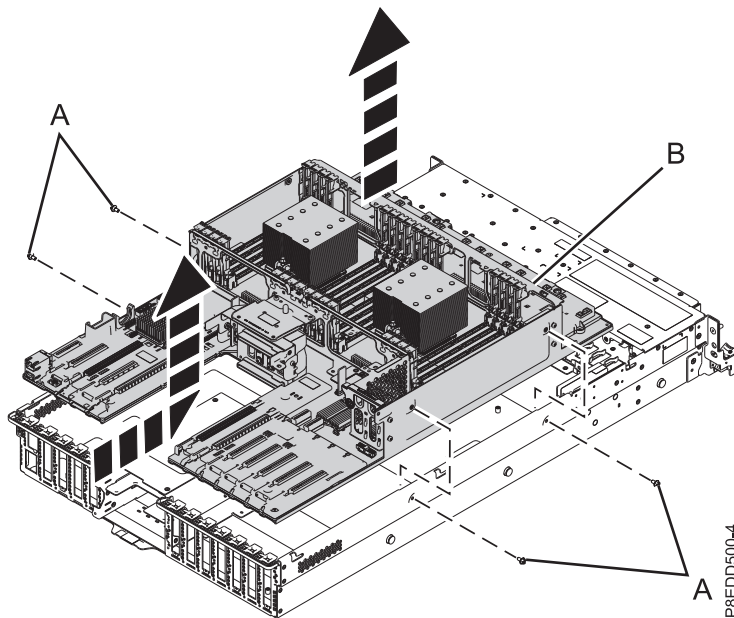

Figure 119. Removing the system backplane
- b. Using a Phillips screwdriver, unscrew and remove four screws **(A)** from the sides of the system chassis as shown in Figure 119 on page 121.
- c. Grasp the system backplane by the top guide rail **(B)**. Slide it forward in the direction that is shown, then lift it up to remove it from the chassis. Place the system backplane on an ESD surface. See Figure 119 on page 121.